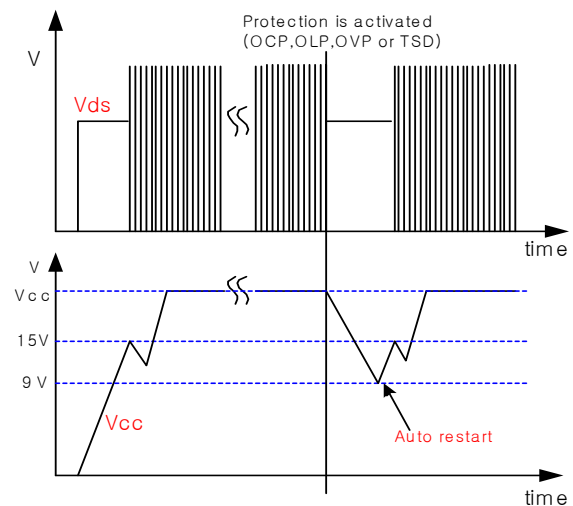

Figure 3. Auto restart operation after protection
3. Protection function : FS8S0965RCB has 4 self protective functions such as abnormal over current protection (AOCP), over load protection (OLP), over voltage protection (OVP) and thermal shutdown (TSD). Because these protection circuits are fully integrated into the IC without external components, the reliability can be improved without cost increase. In the event of these fault conditions, the FPS enters into auto-restart operation. Once the fault condition occurs, switching operation is terminated and MOSFET remains off, which forces V_{cc} to be reduced. When V_{cc} reaches 9V, the protection is reset and the supply current reduces to 80 μ A. Then, V_{cc} begin to increase with the current provided through the start-up resistor. When V_{cc} reaches 15V, the FPS resumes its normal operation if the fault condition is removed. In this manner, the auto-restart alternately enables and disables the switching of the power MOSFET until the fault condition is eliminated as illustrated in figure 3.